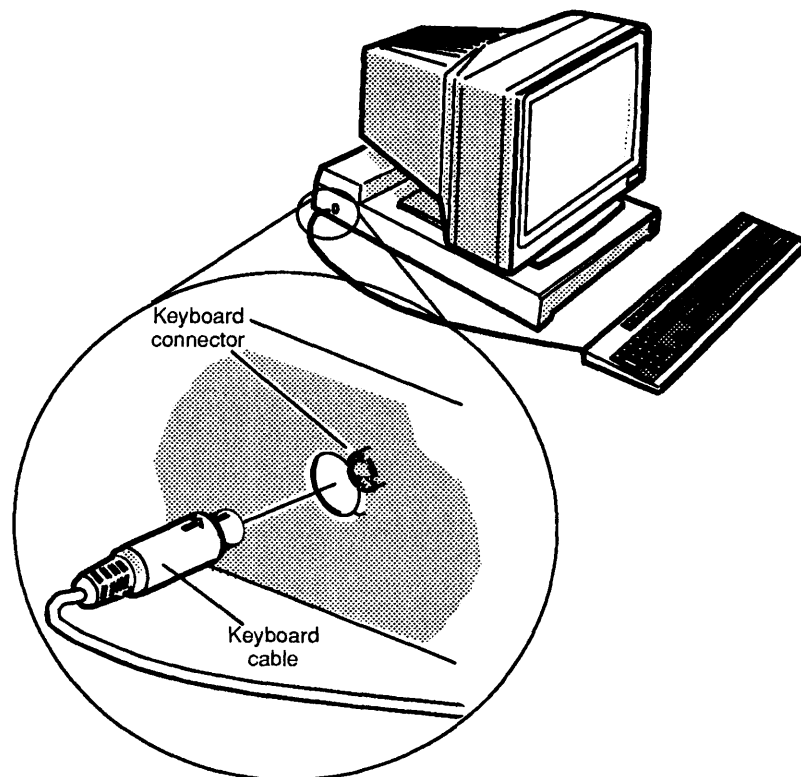

Figure 2-7 Plugging In or Unplugging the Keyboard Cable
2. Plug the keyboard cable into the keyboard connector located on the side of the computer unit as shown in Figure 2-7. There is a keyboard icon printed on the chassis to help you identify the connector.
If you have a keyboard extension cable, first connect the keyboard cable and the extension cable; then, connect the extension cable into the computer unit keyboard connector as shown in Figure 2-7.